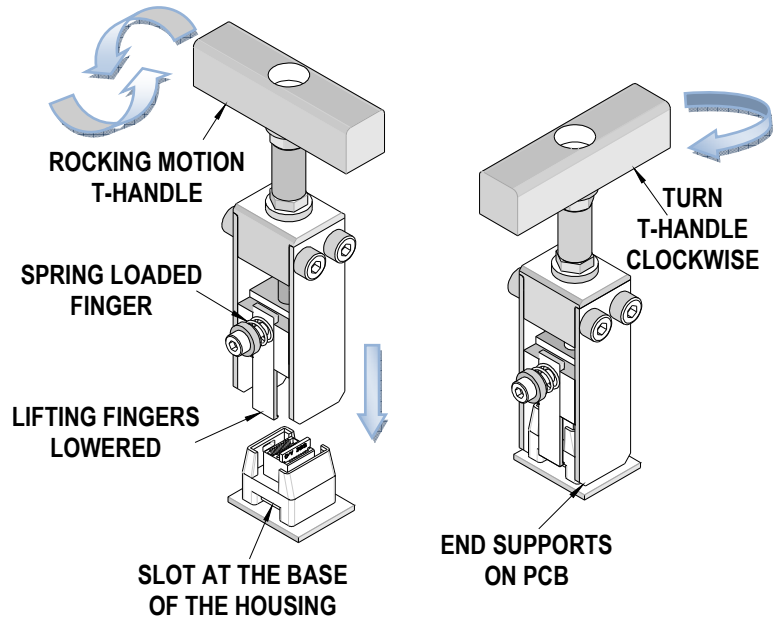
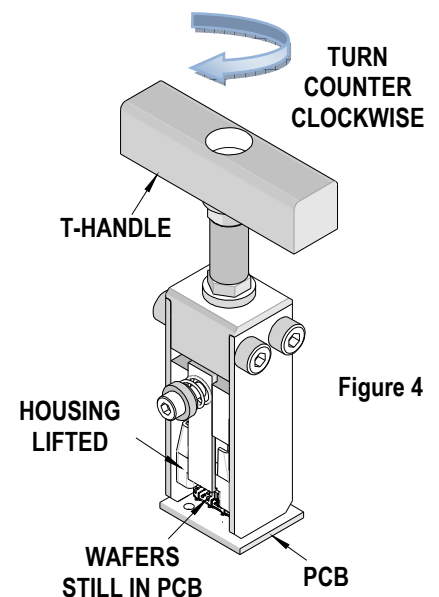

Figure 3
Figure 4
2. This tool has a spring loaded lifting finger on one side to assist with sliding the fingers down over the housing. Using a rocking motion, slide the lifting fingers down over the housing. Push the tool down over the housing until the lifting fingers snap into the slots at the base of the housing assembly. See Figure 3.
3. Turn the handle clockwise (CW) until the bottom of the end supports contact the board surface.
4. Continue turning the T handle clockwise (CW) until the housing assembly is removed from the PCB. See Figure 4.